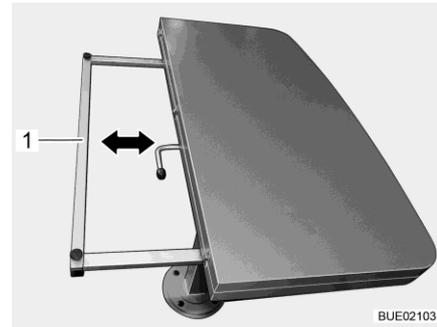

Fig. 132 Reducing the table top size
- Hold the supporting frame (Fig. 132,1) on both sides and push it underneath the table top as far as it will go.